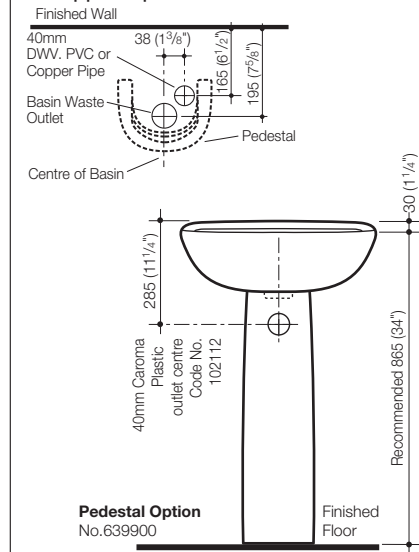

Fig. 4
Provide suitable reinforcement behind finished wall for the basin D.200 Basin/Lavatory Fixing Kit at the specified height position. For installation with pedestal the procedure for, **Installation with Pedestal using D.200 Basin/Lavatory Fixing Kit** must be followed with reference to Fig. 4.
**\* IMPORTANT-**For timber stud walls, noggins and stud must be positioned at a height to allow for the location of fasteners, as detailed in Fig. 4. For optimum basin/lavatory-pedestal installation, the basin/lavatory must be positioned over the pedestal to determine the height position for the D.200 basin/lavatory fixing kit and waste/drain pipe floor/wall position, as detailed in Fig. 4.
- 1- Mark fixing screw hole position on finished wall at the height as determined above, approximately 790mm as detailed in Fig. 4. Position basin/lavatory over pedestal and check fixing centres and waste/drain pipe centres. Adjust if necessary.